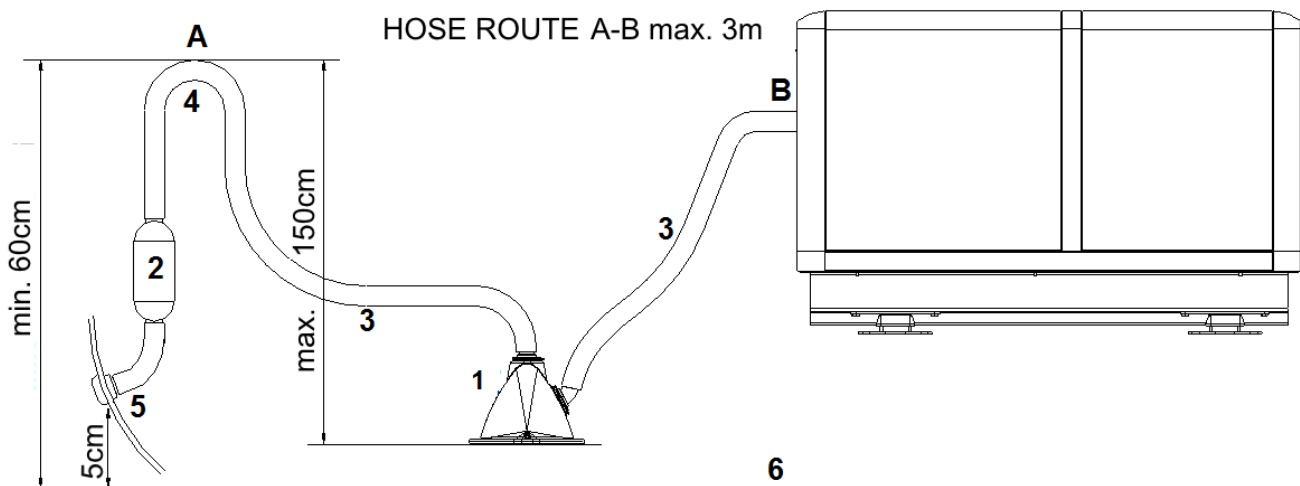
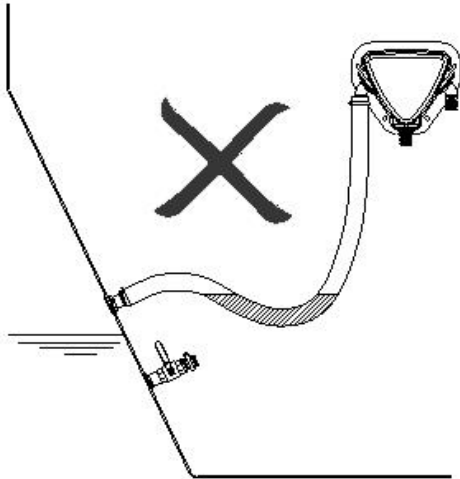

Fig. 8: Exhaust system
Fig. 11: Water trap in exhaust system
The exhaust hose descends from the capsule to the water lock. Then the hose rises via the "goose neck" to the through-hull exhaust outlet, situated minimum 50 mm above the water line (see fig. 8, ref 5.) The "goose neck" must be vertical and situated preferable along the ship's keel centre line. If the generating set is mounted less than 600 mm (24") above the waterline, a "goose neck" must be installed to prevent the engine from overflowing. It is recommended to install an extra muffler close to the through-hull fitting.
However water traps should be avoided as the fumes still contains water and this should not accumulate in bends (see fig. 11). An additional outlet exhaust muffler close to the hull outlet will help further to reduce noise emission (figure 8, ref. 2)